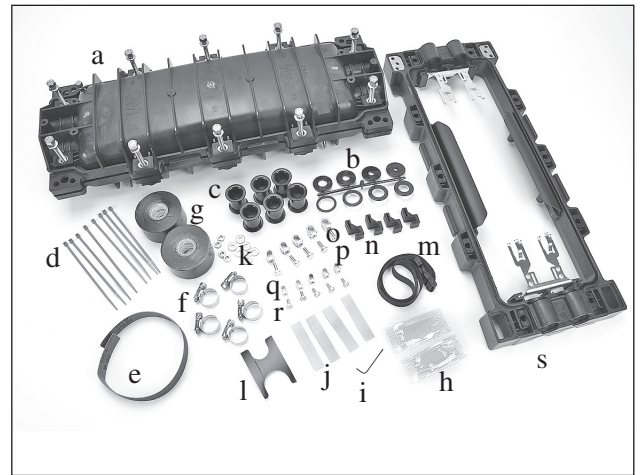

Figure 4
4.4 3M™ Splice Closure 2178-S +81 Kit Contents (Figure 4):